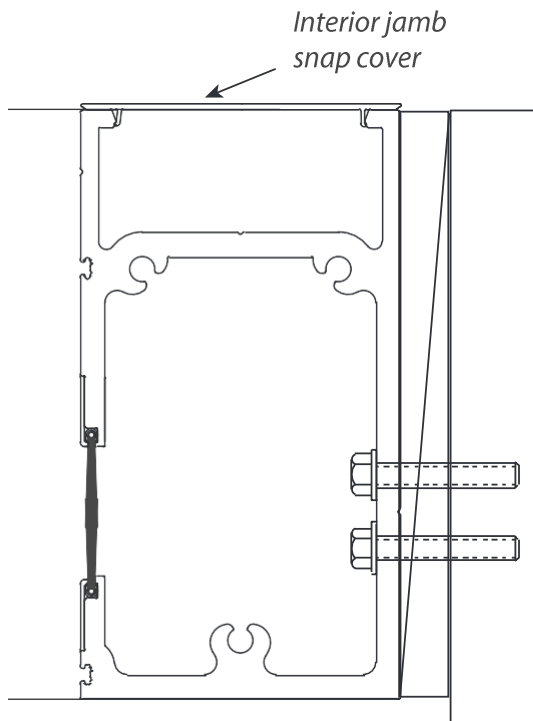

Figure 12.1
- J. Install Interior jamb snap covers and head cap. (Figure 12.1)